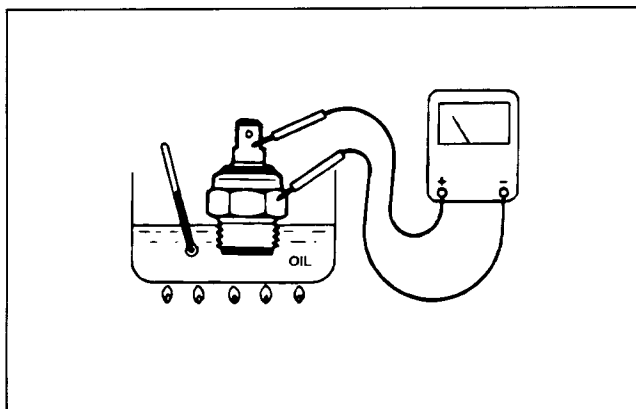

Figure 24
2. Put the switch in a container of oil with a thermometer and heat the oil (Fig. 24).
3. The switch is normally open (NO) and should close at 226 - 237° F (108 - 114° C).